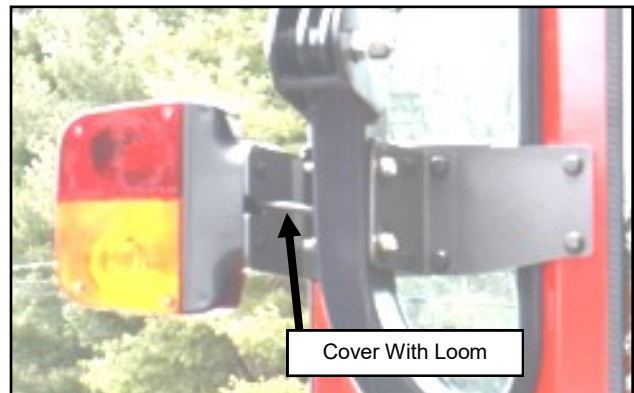

Fig. 7.1 (Attach Rear Light)
- 7.1 Set the left rear light into place and secure with the M8 button head screws provided. See Figure 7.1.
- 7.2 Cover the rear light wiring with half of the 3/8" loom provided so that any part that contacts the ROPS is protected. See Figure 7.1.